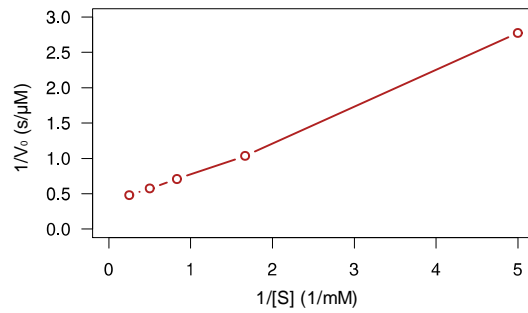

Figure 1.7: Lineweaver-Burk plot of the uninhibited enzyme kinetics data
Shown below (Figure 1.7) is the Lineweaver-Burk plot ( $1/V_0$  versus  $1/[S]$ ) of the S1–S5 data point in Table 1.3.
**Determine the linear function of in the Lineweaver-Burk plot (Figure 1.7) in the form shown below mathematically from the two data points for S1 and S5. Give a and b with three digit after the decimal point.**